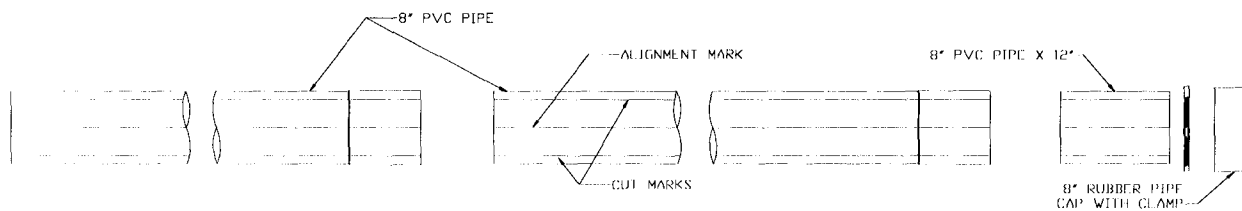

Figure 5
- D) These pipes are marked with three lines. The 8 inch pipe sections are to be glued together with the lines aligned from one pipe to another as shown in Figure 5. Using the PVC cleaner and cement supplied with the system (one quart container), glue all the 8 inch pipe sections together as shown in Figure 5 making sure the alignment marks are aligned.
- E) Install the 8 inch rubber pipe cap and clamp on the end of the 12 inch section of 8 inch pipe as shown in Figure 5.